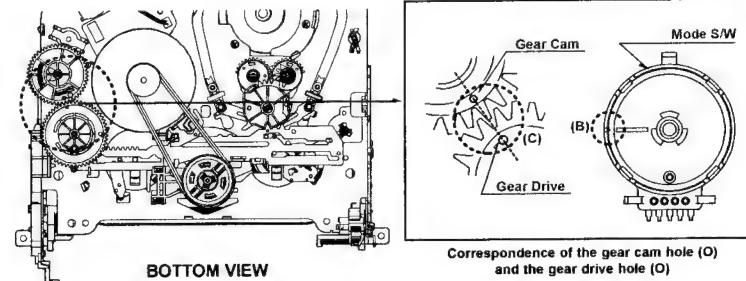

Fig. C-1
4) Undo the screw fixing the deck and the main frame, and separate the deck assembly. Check both the hole (A) of gear cam and the hole (A') of chassis correspond (Fig. C-1).